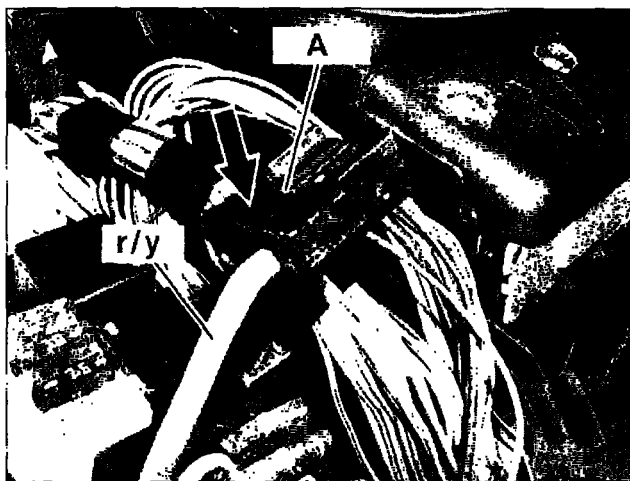

Figure 5
- The fuse holder (35) and fuse can be discarded.
6. Install unpinned wire connector (with *r/y* wire, Figure 5) into new harness connector (A):
- Insert the unpinned wire connector (with *r/y* wire, Figure 5) into position 1 of the new harness connector (A).